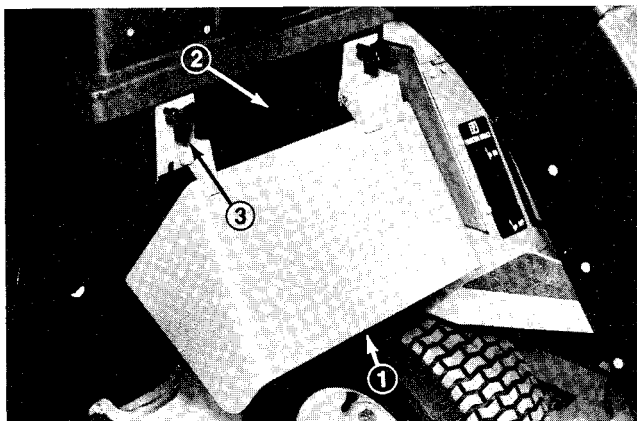

Figure 18
4. Mount cutting unit grass deflector (included in kit, to front of hopper frame with (2) knobs and washers when using grass catcher (Fig. 18).
6. Mount cutting unit grass deflector (included in kit, to front of hopper frame with (2) knobs and washers, when using grass catcher (Fig. 18).